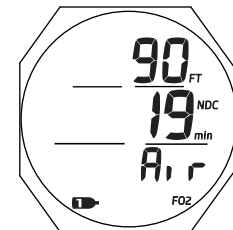

Fig. 30A - PDPS (nitrogen control)
**PDPS**, information includes (Fig. 30A, B):